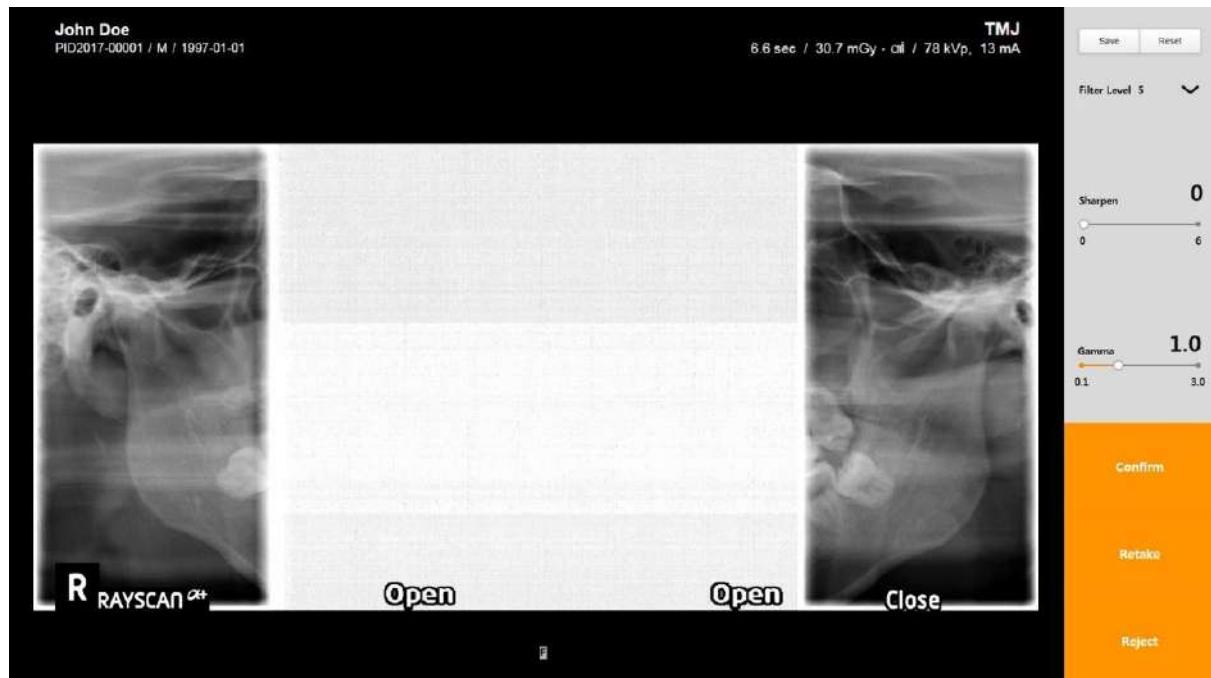
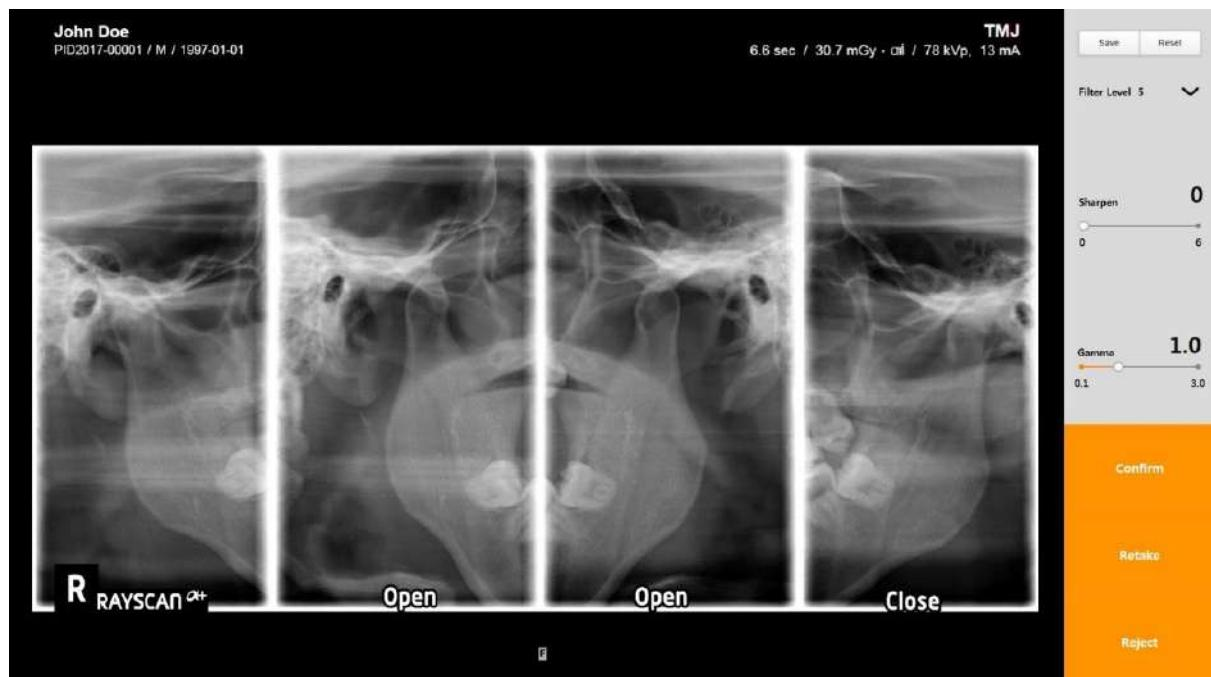

Fig 16 TMJ 2-View
Fig 17 TMJ 4-View
On 4-View option, scan 2 times continuously and the results are in 1 image view as 'Fig 17'.
**2-View scan:** On TMJ Select screen (Fig 15), select either Open or Close to scan and the result image is displayed as 'Fig 16'.
**4-View scan:** On TMJ Select screen (Fig 15), select 4-View option and scan Close images first. As soon as the scan is finished, the result image pops-up (Fig 16). Click [Confirm] to scan Open images as following. After all the scans, the final image is displayed in 1 image view 'Fig 17'.